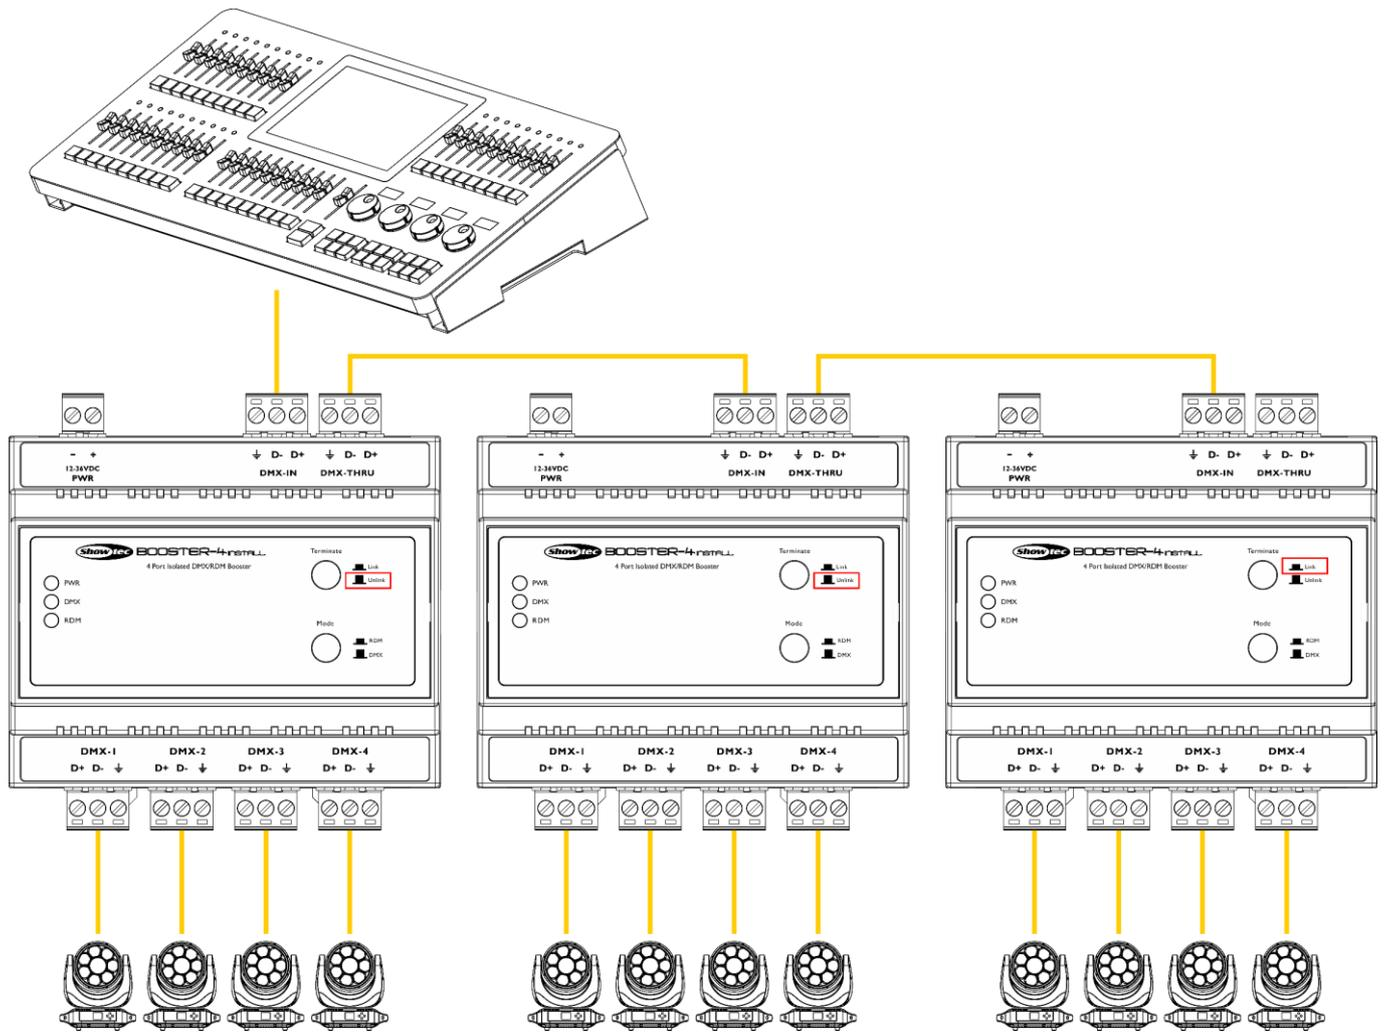

Fig. 12
- 05) Repeat steps 3–4 to connect all devices in a daisy-chain as shown in Fig. 12 on page 15.
- 02) Make sure that the **Terminate (04)** button on all daisy-chained devices but the last one is in UNLINK position. See Fig. 12 on page 15 for more information.
- 03) Make sure that the **Terminate (04)** button on the last daisy-chained device is in LINK position. See Fig. 12 on page 15 for more information.
- 04) Press the **Mode (05)** button on each device in order to choose one of the 2 operation modes: